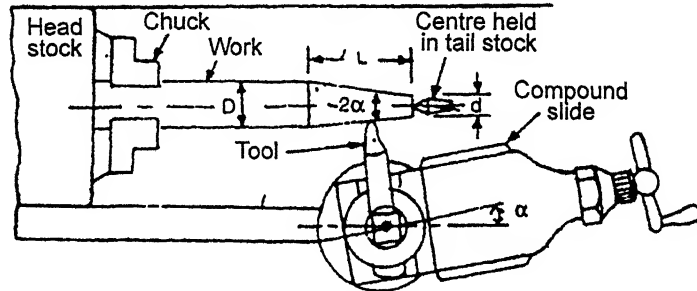

Fig. 10.16. Taper turning.
- In this method of taper turning the *workpiece is rotated on the lathe axis and the tool is fed at an angle to the axis of rotation of the workpiece*. The tool mounted on the compound rest is attached to the circular base, graduated in degrees, which may be swivelled and clamped at any desired angle as shown in Fig. 10.16. After the compound rest is set at the desired half taper angle, rotation of the compound slide screw will cause the tool to be fed at that angle and generate a corresponding taper.